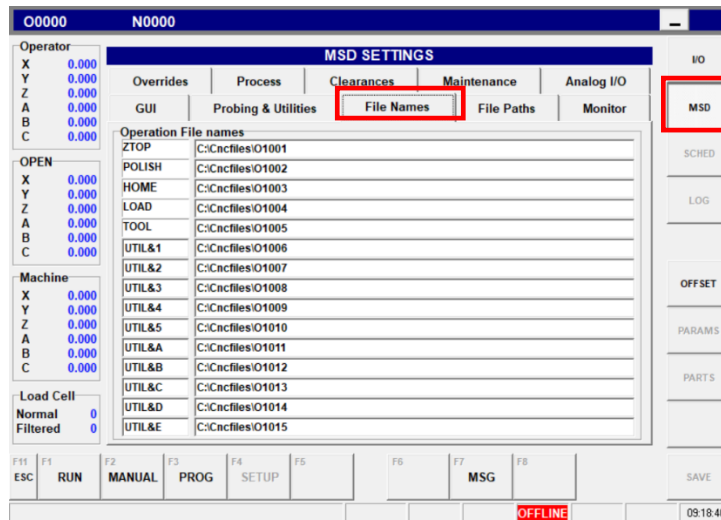

Figure 38 - Setting up a utilities program
10. Press “MSD” button. See (Figure 38 - Setting up a utilities program).
11. Select “File Names” tab page. See (Figure 38 - Setting up a utilities program).